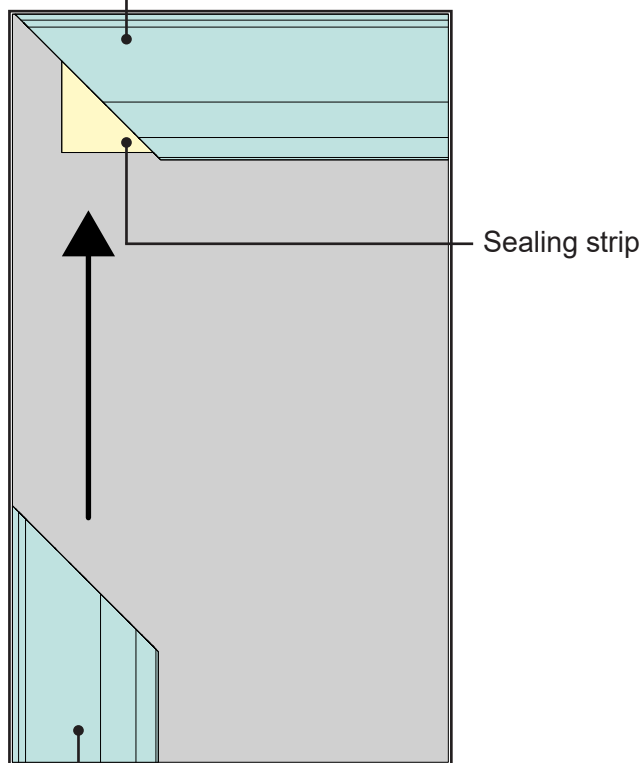

Figure 23
2. Insert the right and left sealing profiles into the top sealing profile at both corners (Fig. 23).